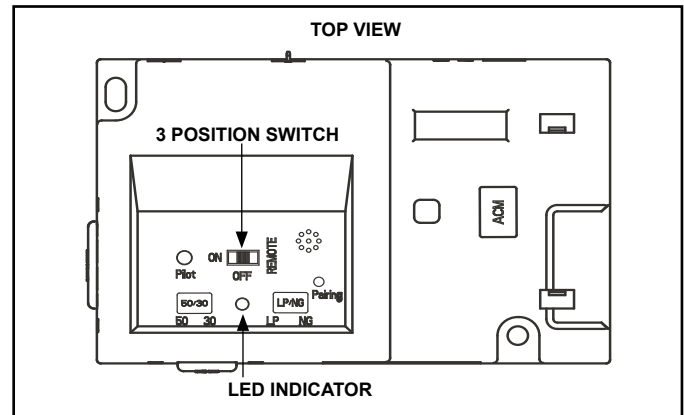

Figure 3.6. IFT-ECM
1. The Electronic Control Module (IFT-ECM) has a three-position ON/OFF/REMOTE selector switch that must be set for proper operation. See Figure 3.6. When changing switch positions, it is important to pause in each position for 1-2 seconds.